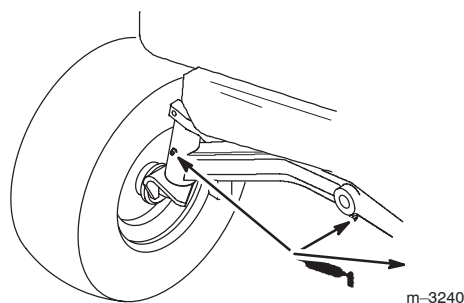

Figure 32
1. Lubricate the left-hand and right-hand spindles until grease begins to ooze out of the bearings (Fig. 32).
2. Lubricate the front axle pivot (Fig. 32).